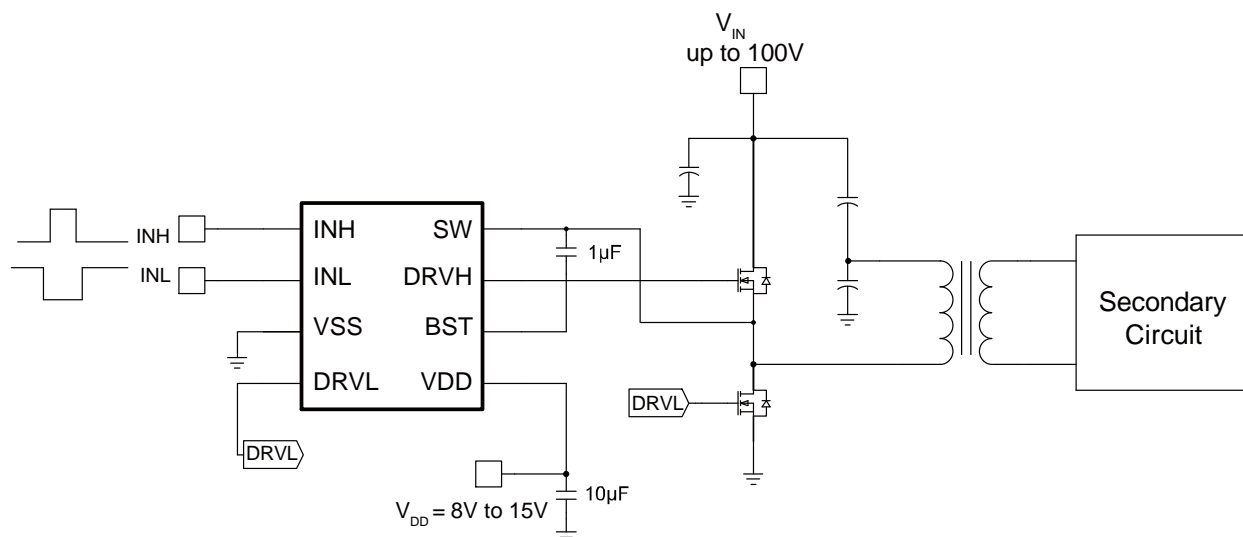

Figure 5: Typical Application Circuit (Half-Bridge Converter Topology)
In a half-bridge converter topology, the high-side MOSFET (HS-FET) and low-side MOSFET (LS-FET) are driven alternately with a dead time (DT) inserted between their respective on periods. INT and INL are driven with alternating signals via the pulse-width modulation (PWM) controller. The input voltage (V_{IN}) can rise up to 100V when in a half-bridge topology (see Figure 5 in the Typical Application Circuits section on page 13).